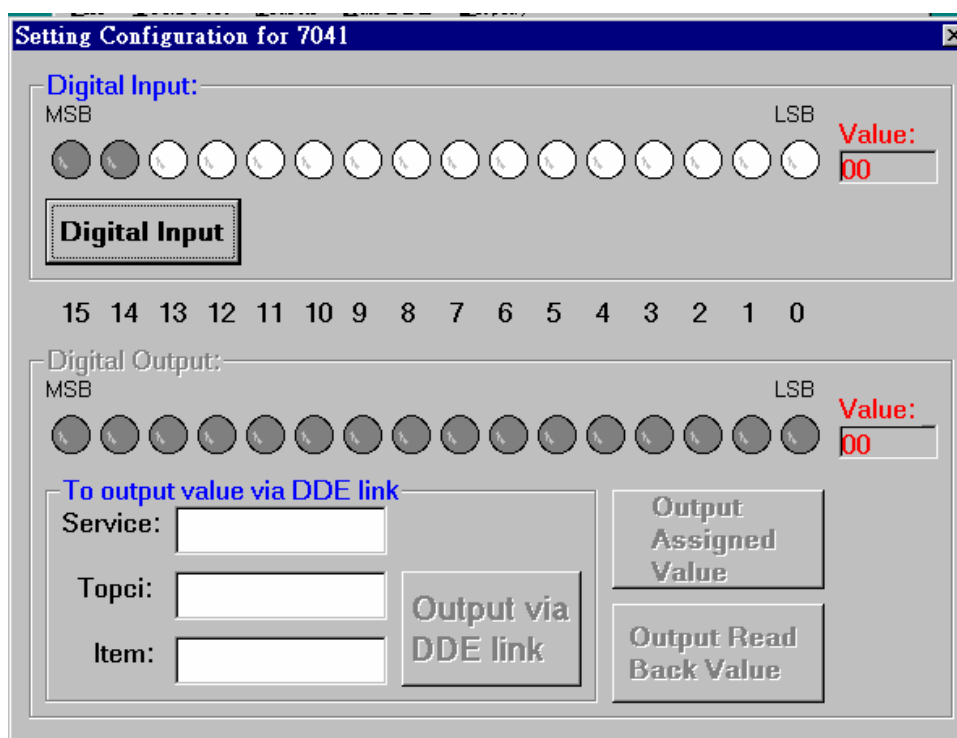

Fig 2-22 The *setting Configuration for 7041* window.
Step 3: After selecting 7041, a window titled *setting Configuration for 7041* will pop up as Fig 2-22 shown.